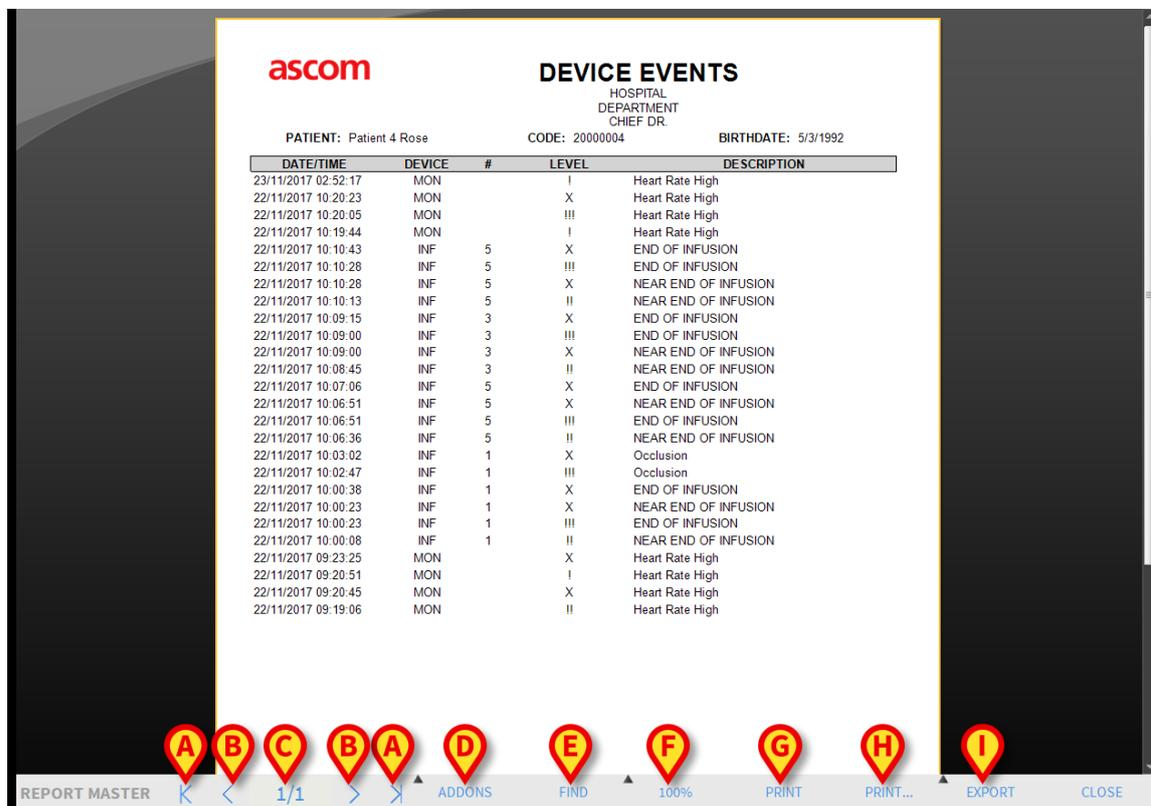
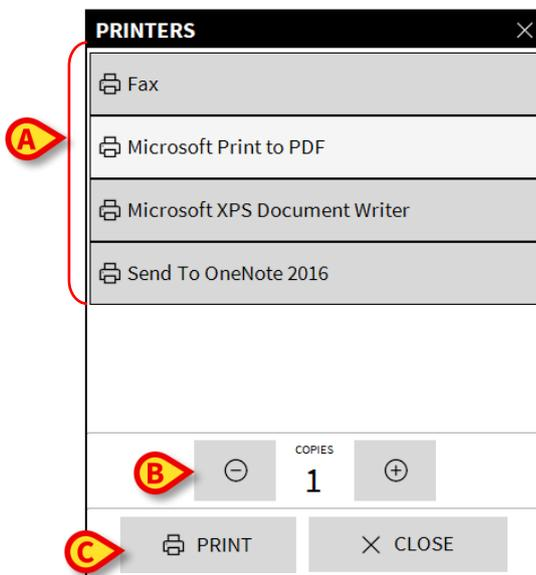

Fig 24
Fig 30
A print preview of the selected document will open (Fig 24).
Use the **Print** button (Fig 24 **G**) to print the report.
Use the **Print...** button (Fig 24 **H**) to display the print options window (Fig 30). See paragraph 5.8.2.4 for a description of this window and the related procedures.
Use the **Export** button (Fig 24 **I**) to export the document contents to different file extensions. See paragraph 5.8.2.5 for more instructions.
The **Addons** button (Fig 24 **D**) activates the possible additional print management options.
The **Find** button (Fig 24 **E**) makes it possible to search the print report currently displayed.
The **Zoom** button (on which, by default, the **100%** size is displayed - Fig 24 **F**) is a zoom, making it possible to change the display size and mode.
- Click the **Print...** button (Fig 24 H) to display the print options window (Fig 30)
- Click the appropriate printer on the menu to select the printer (Fig 30 A)
- Use the  (one less copy) and the  (one more copy) buttons to specify the number of copies (Fig 30 **B**)
- Click the **Print** button (Fig 30 **C**) to print the report
The **Export** button (Fig 24 **I**) makes it possible to export the displayed document contents to different file extensions.